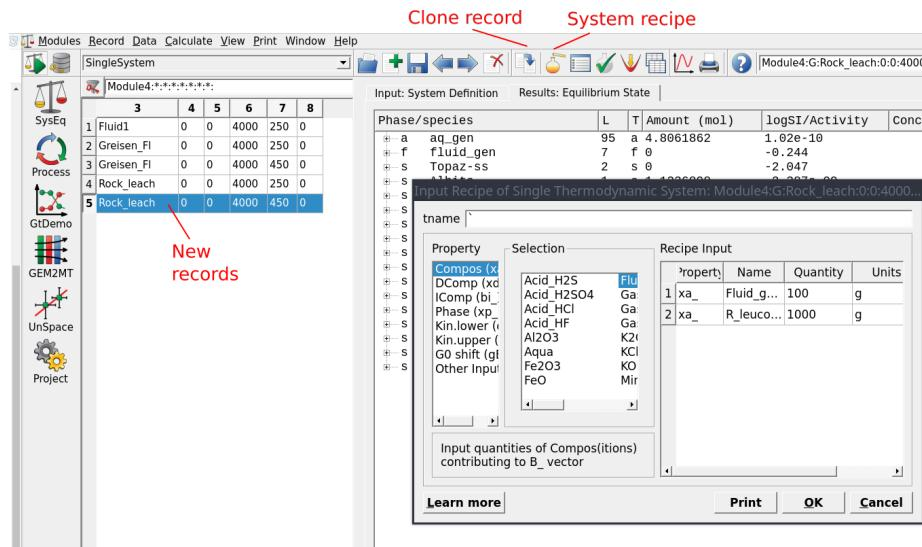

Figure 4.2: Create two new parent equilibrium systems containing the fluid (F-greisen 100 g) and rock (R_leucogranite 1000 g) by cloning the Greisen_Fl records.
- Create the parent system records in **SysEq** by cloning the two records you already created in Module 3; Greisen_Fl records at 250 and 450 °C and 4 kbar. Rename these system records to “Rock_leach”, and leave all the other parameters. For the input take for now 100 g of fluid and 1000 g of rock using the **Open recipe dialog** (Fig. 4.2). Calculate the equilibrium. Save.